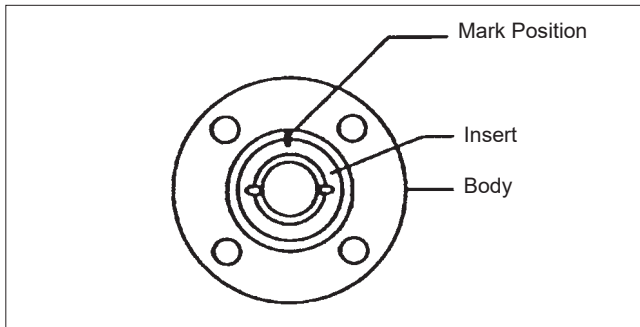

Figure 1
4. Place a stop bushing (37) and a bonnet stud nut (18) on each bonnet stud and tighten nuts alternately so that the compression plate (9) remains parallel with the body bonnet. Tighten down the nuts until the packing/v-ring set is fully seated, then tighten the nuts an additional 1/4 turn.
5. Screw the insert (2) into the body until it is fully seated, and then mark its position as shown in **Figure 1**. Counting the number of turns, remove the insert.
- c. From **Figure 1**, the ballooned part number, part name and quantity required.